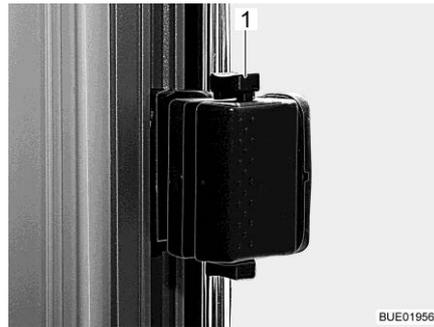

Fig. 99 Sliding window, locked
- Push the latch (Fig. 99,1) downwards.